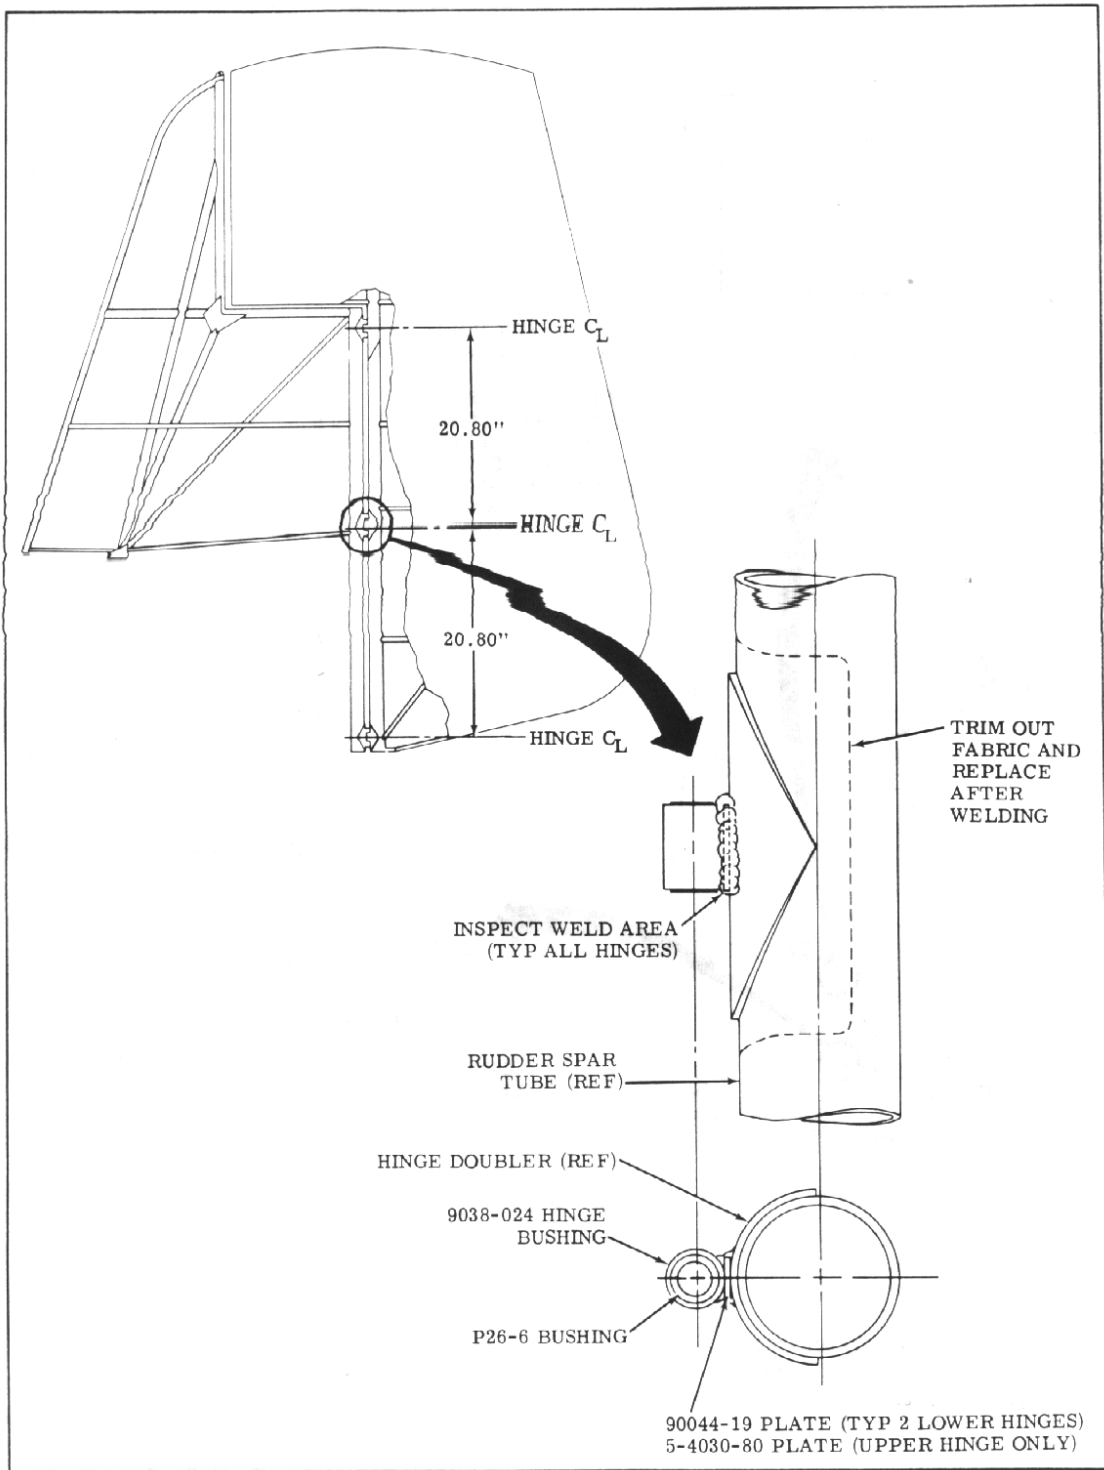

Figure 1.
3. Inspect in and around weld bead on rudder hinge bushing for cracks (see Figure 1.).
- d. Locate and tack weld new 9038-024 bushing and 90044-19 plate (2 lower hinges) or 5-4030-80 plate (upper hinge only) on existing hinge doubler in accordance with FAA Advisory Circular AC 43.13-1 Chapter 2 (see Figure 1.).
- h. Press fit P26-6 bushing in new bushing(s) (see Figure 1.).